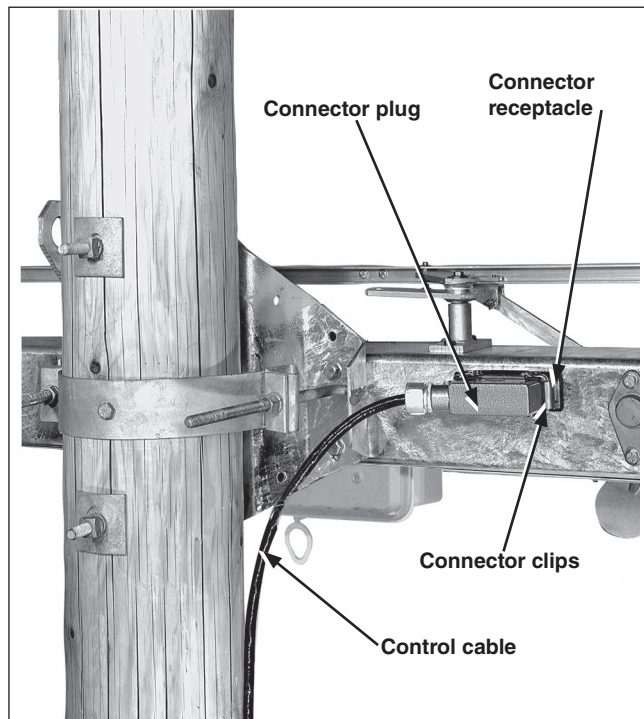

Figure 7. Connect the control cable to the switch. (A Scada-Mate Switch in the upright mounting configuration is shown.)
**STEP 5.** A shielded control cable is included with the Scada-Mate Switch for connecting the switch to the communication and control unit. Remove the control cable from its shipping carton. The control cable is provided with multi-pin connector plugs—male for connecting to the switch and female for connecting to the control unit. Locate the receptacle on the back of the switch base and remove the dust cover. Remove the sensor shorting blocks from the receptacle and attach the control cable plug. Secure the plug with the connector clips. Refer to Instruction Sheet 768-500. Retain the dust cover and sensor shorting blocks for future use. See Figure 7.
**When installing a 12-volt dc communication device in the field:** Connect power to the communication device by wiring terminals “37” and “38” on terminal block T4 to the power input terminals on the communication device. See Figure 7.